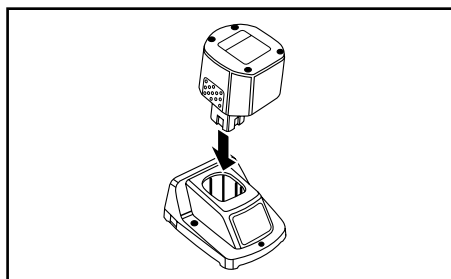

Fig. 5
3. Insert battery into the charging stand (Fig. 5).
4. Press down on battery to be sure contacts on the battery engage properly with charging stand contacts (Fig. 5).